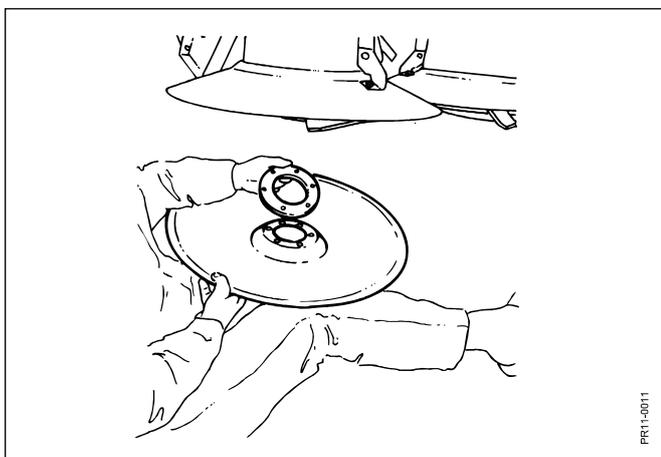

Fig. 3-6
- Fig. 3-6:** A higher cut is obtained by mounting the supplied spacers at the guide shoe (the tool packet).